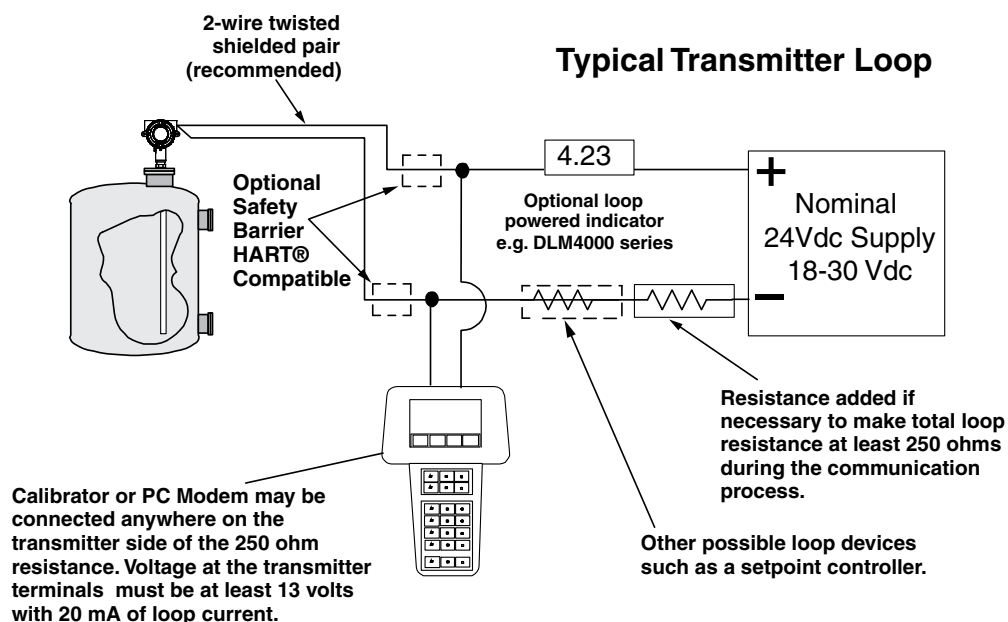

Figure 4-1
1. Connect the handheld calibrator as shown in *Figure 4-1*.